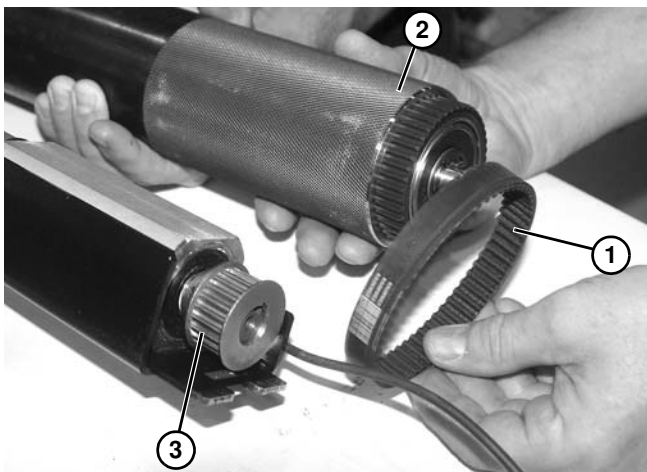

Figure 195
11. Remove timing belt (Figure 195, item 1) from drive spindle assembly (Figure 195, item 2) and motor drive gear (Figure 195, item 3).
12. Remove drive spindle assembly (Figure 195, item 2) and replace.